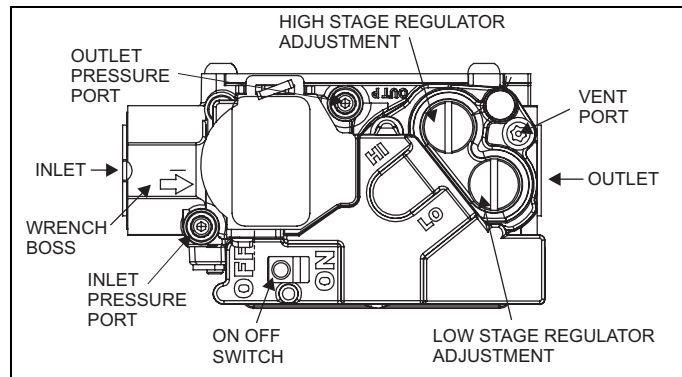

FIGURE 21: Gas Valve
Manifold gas pressure may be measured by two different procedures. It may be measured with the burner box cover in place or it may be measured with the burner box cover removed. Follow the appropriate section in the instructions below. Refer to Figure 21 for a drawing of the locations of the pressure ports on the gas valve.
This gas valve has separate regulator adjustment screws for high fire and low fire, as shown in Figure 21. The procedure below is used to adjust either the high fire manifold pressure or the low fire manifold pressure.
1. Refer to Figure 21 for location of pressure regulator adjustment cap and adjustment screws on main gas valve.